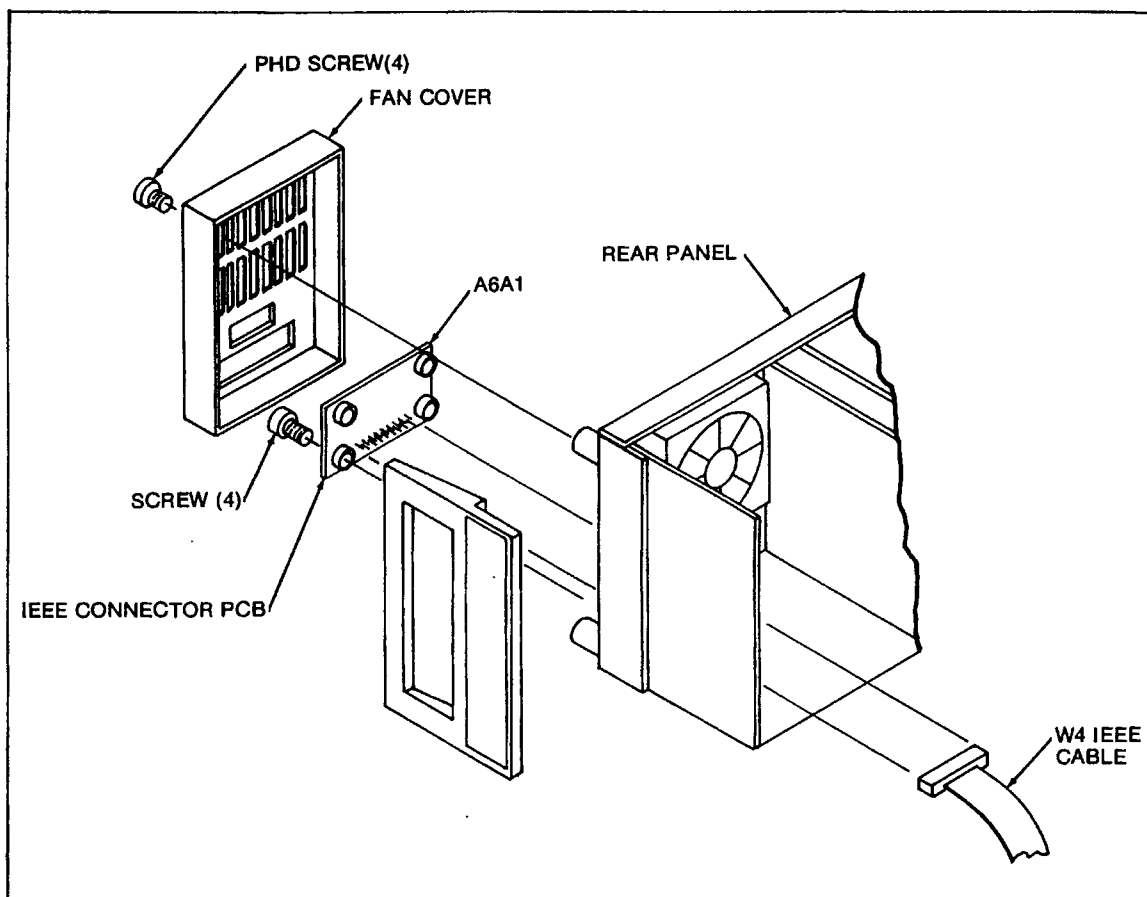

Figure 3-17. A6A1 IEEE Connector PCB Access
3-98. The A6A1 IEEE Connector PCB is attached to the rear panel. The access procedure allows access to the printed circuit board for troubleshooting procedures. Figures 3-17 illustrates the disassembly and assembly procedures.
1. Align the screw holes and secure the IEEE PCB with the four screws previously removed (Figure 3-17).
2. Align the screw holes and secure the fan cover to the rear panel with the four Phillips head screws previously removed (Figure 3-17).